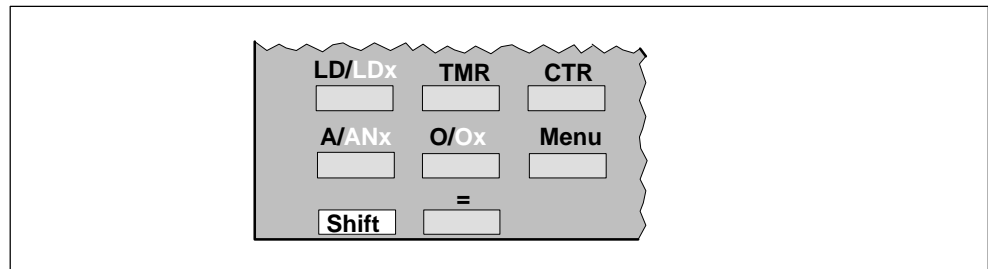

Figure 5-1 Keys for Entering Instructions
Figure 5-1 shows you the keys that are active when you enter instructions.
- Press one of the keys shown in Figure 5-1 to display the instruction in front of the slash.
If you press a key not shown in Figure 5-1, the entry is rejected with the “SYNTAX ERROR” message. This message must always be confirmed with . A list of the relevant keys is included in Section A.1.